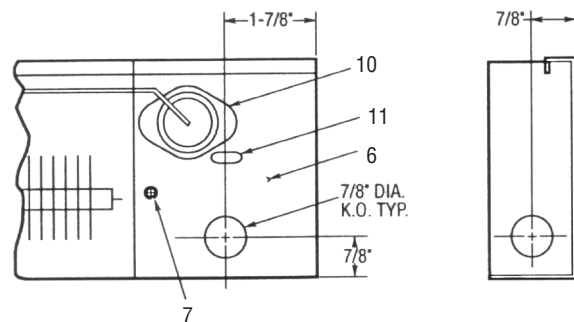

Figure 2. Knockout Detail
1. Remove left and right junction box covers (1) by removing screws (2).
2. Deflect spring clips (3) and lift front cover (4) off brackets (5). Carefully remove protective packing from element area.
4. Bring in power supply to selected knockout in junction box (6, Figure 2).
6. Fasten heater to wall, using the slotted mounting holes (11) located in each junction box. See Figure 2. The following ways of mounting heaters to common types of wall surfaces are suggested:
4. Fasten heater to wall using the slotted mounting holes (11) located in each junction box. See Figure 2. The following ways of mounting heaters to common types of wall surfaces are suggested: